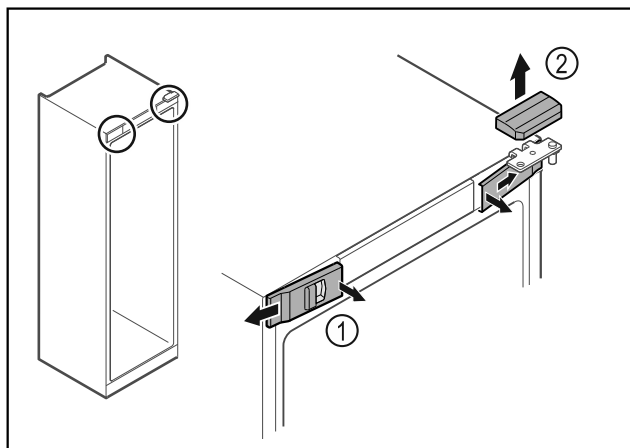

Fig. 5
- Unlatch the front covers Fig. 5 (1) on the inside and remove them sideways.
- Lift off the upper cover Fig. 5 (2).